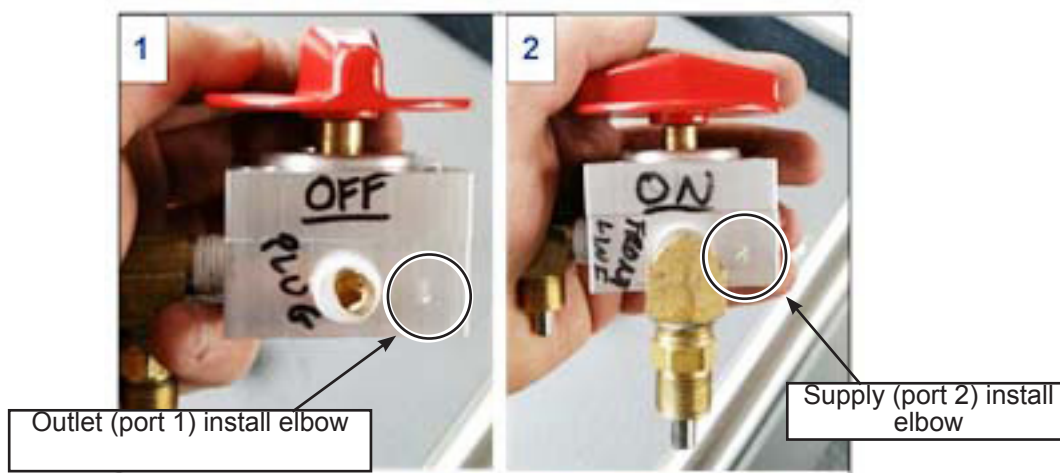

Figure 7 - Install Both Elbows on the New Valve
- 1.8. Install both elbows removed earlier, at port 1 and port 2, onto the new Massat valve. Numbers 1 and 2 are engraved on the valve body (see Figure 7).